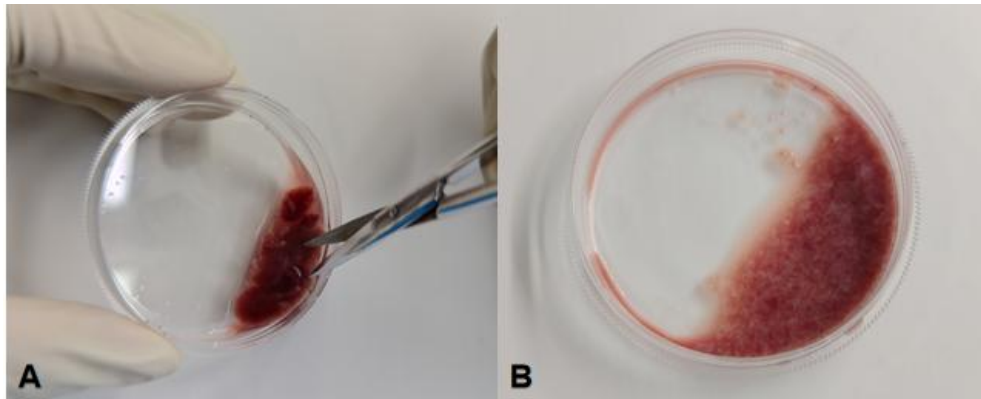

Figure 1. Treatment of liver tissue in vitro
- (1) Tissue Processing
- Quickly cut the tissue into 1 mm³ pieces using ophthalmic scissors 3, until the tissue is sugar like (as shown in Figure 1) and there are no large pieces of tissue. Use a Pasteur pipette or a pipette with a wide mouthed tip to transfer the tissue fluid and transfer it to a 50 mL centrifuge tube. Add 5 mL **Specialized Washing Solution For Rat Liver Sinusoidal Endothelial Cells** to clean the liver tissue culture dish and transfer it to the same centrifuge tube. Centrifuge at 300 g for 1 min, discard the supernatant, and retain the tissue precipitate.
- (2) Tissue Digestion